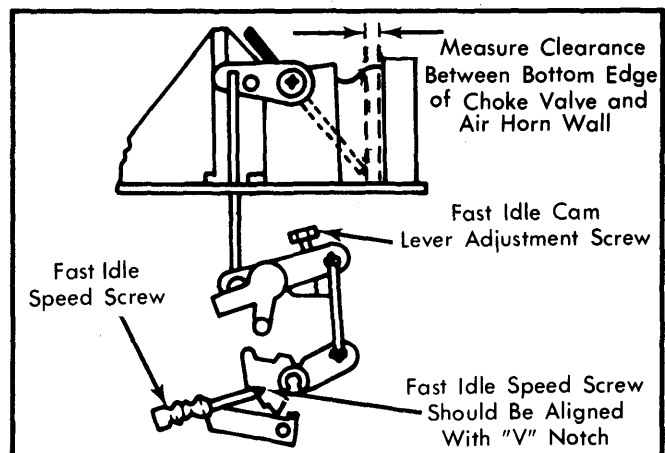

Fig. 5 Adjusting Fast Idle Cam Linkage
3) To adjust, turn fast idle cam lever adjustment screw. See Fig. 5. Reconnect vacuum hose to vacuum diaphragm if disconnected. When adjustment is completed, perform steps 4) and 5) of Automatic Choke adjustment procedure to complete this adjustment.